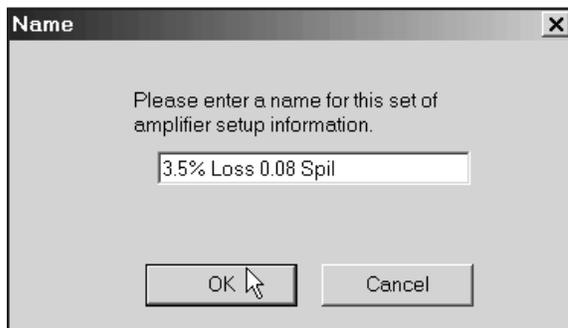

Figure 55 Entering Alpha/Beta Amplifier Setup Name
5. Enter a name that defines the *Alpha/Beta Amplifier Setup* adjustments made and click on **OK** to save (Figure 55). The amplifier is now adjusted for simultaneous counting with a 3.5% beta loss and a 0.08% beta into alpha spillover.